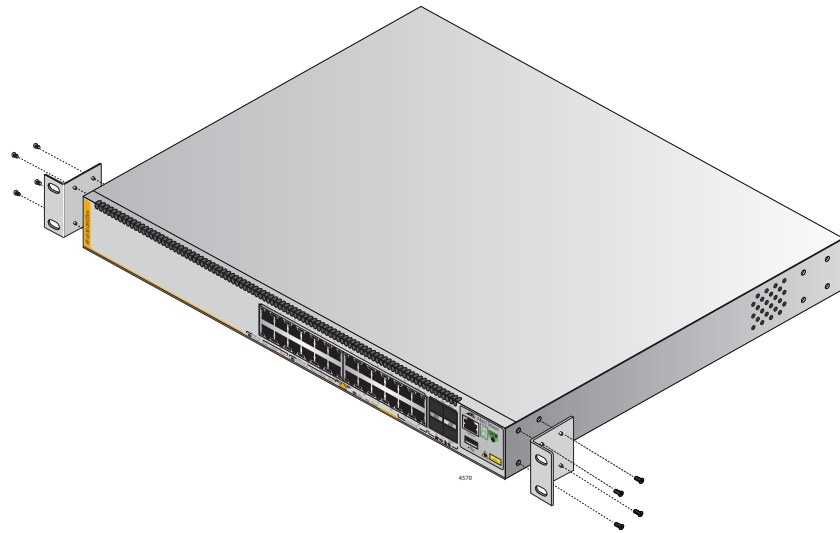

Figure 40. Example of Attaching the Brackets to the Switch
2. Attach the two brackets to the sides of the switch in the selected position, using the eight M4x6mm screws supplied with the unit. The illustration in Figure 40 shows the installation of the brackets such that the front panel of the switch is even with the front of the equipment rack.